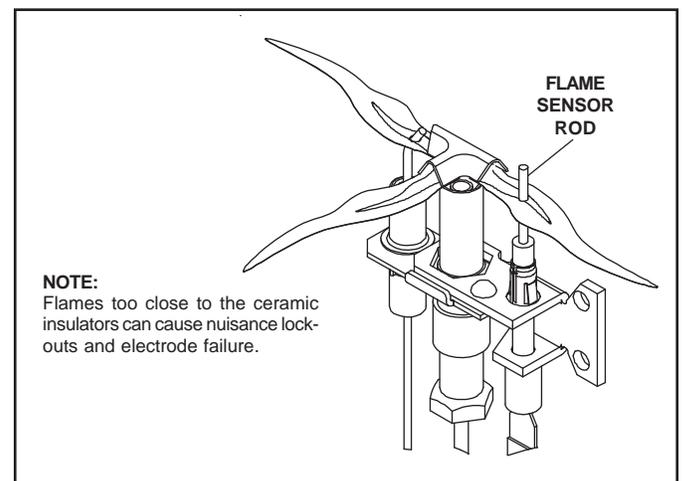

Figure 3.1 IPI Pilot Flame Pattern
- Inspect pilot flame pattern and strength. See Figures 3.1 and 3.2 for proper pilot flame pattern. Clean or replace orifice spud as necessary.